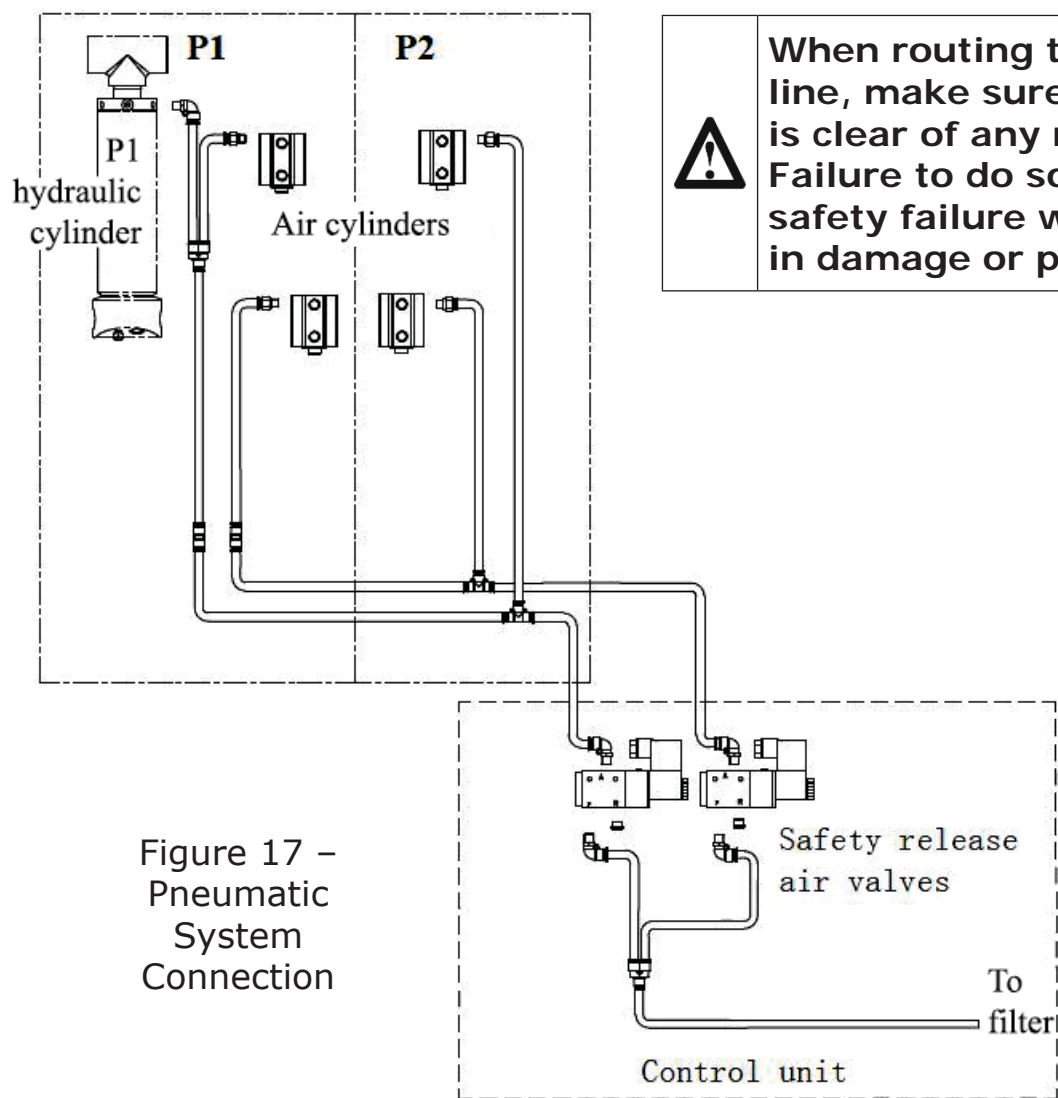

Figure 17 –
- Connect the pneumatic lines pre-assembled on the runways to the control unit referring to the Figure 17;